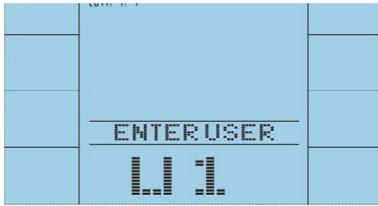

FIGURE 6
(2) Press the UP/DOWN buttons to choose the user (U) from 1 to 4. Confirm with ENTER (fig. 6). Enter the user data for gender, age, height, and weight (fig. 7 to 10).